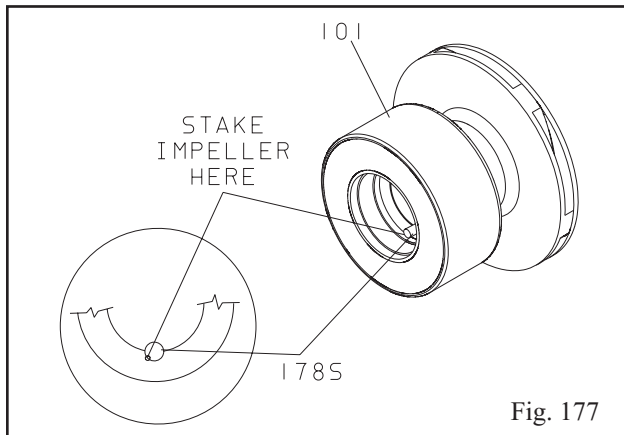

Fig. 177
1. Slide key (178S) into impeller (101). To hold key in place, stake impeller at end of key (Fig. 177). Use a center punch.